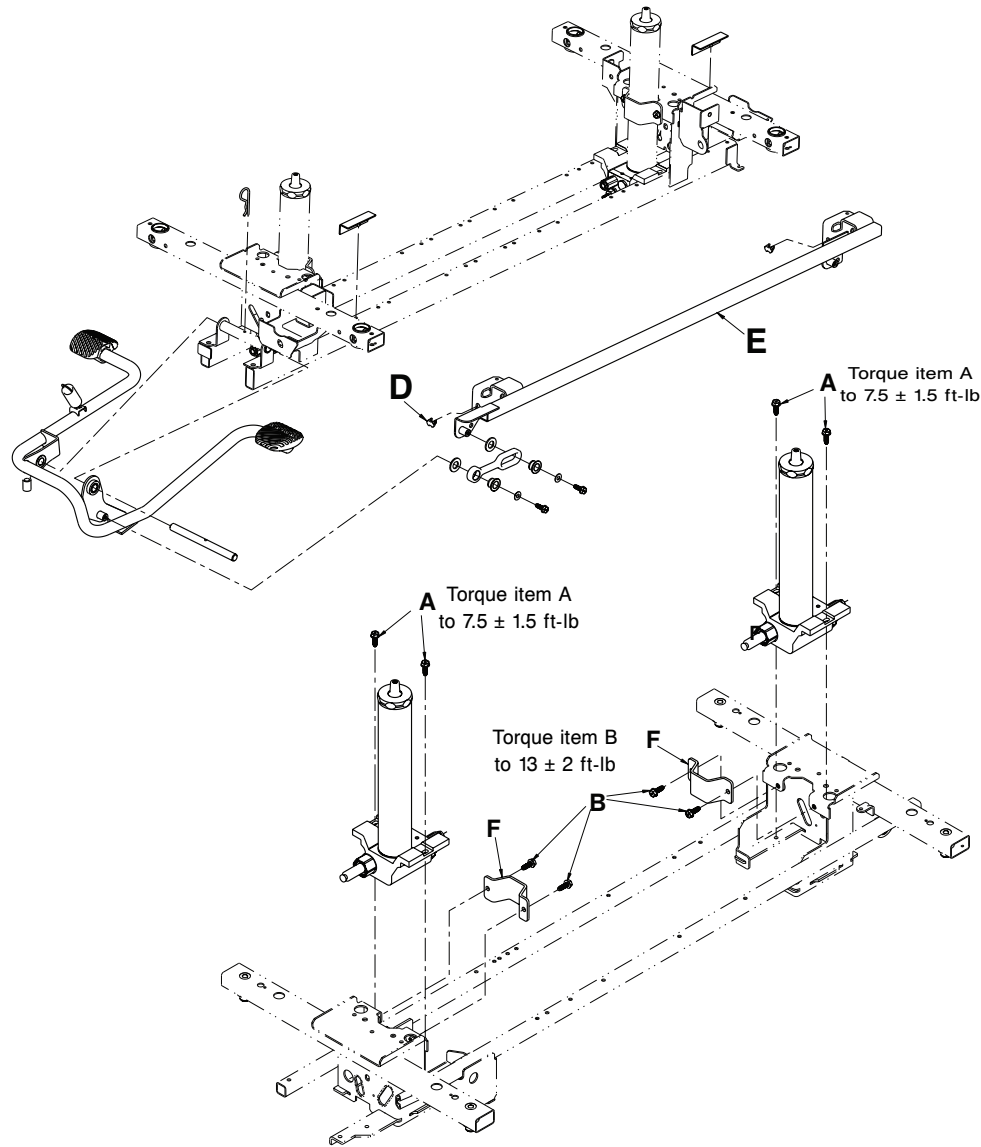

Figure 9 – Replace the jack
4. At the head end of the product, use a 1/2" socket with a 3/8" drive extension and a 3/8" drive ratchet, remove the two hex washer head screws (B) that hold the jack and reservoir clamp (F) to the base frame and remove the clamp (Figure 9).
4. Use a 1/2" socket with a 3/8" drive extension and a 3/8" drive ratchet to remove the two hex washer head screws (B) that hold the jack and reservoir clamp (F) to the base frame and remove the clamp (Figure 9).